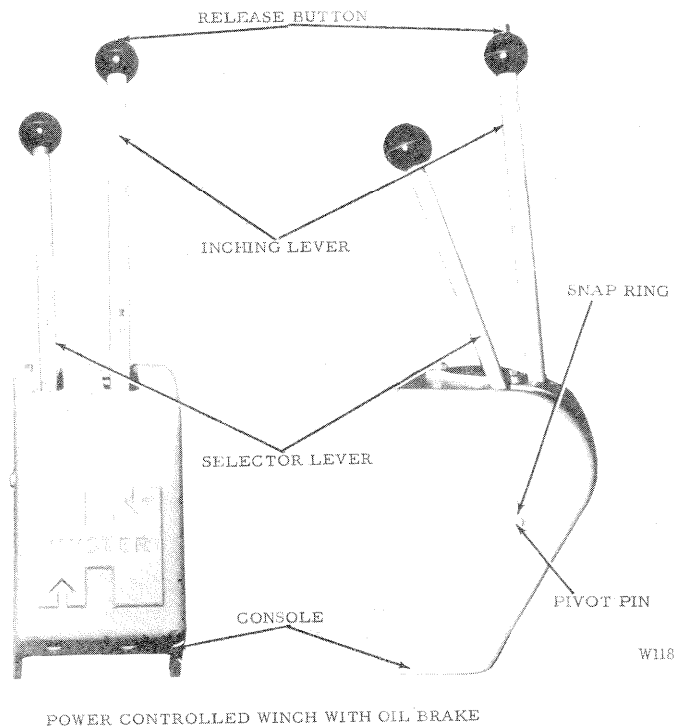

Figure 3
c. Power controlled winch with oil brake. Fig. 3.